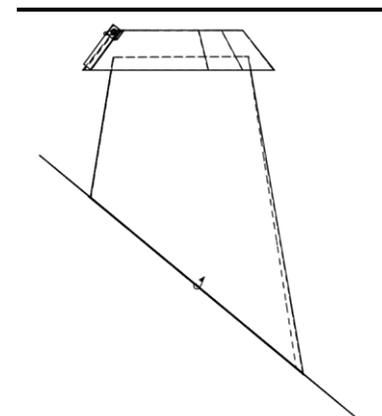

FIGURE 13 **STORM COLLAR POSITION**
8. Place the storm collar over the chimney and flashing (see Figure 13). Seal the collar to the chimney with silicone (high temperature not required).